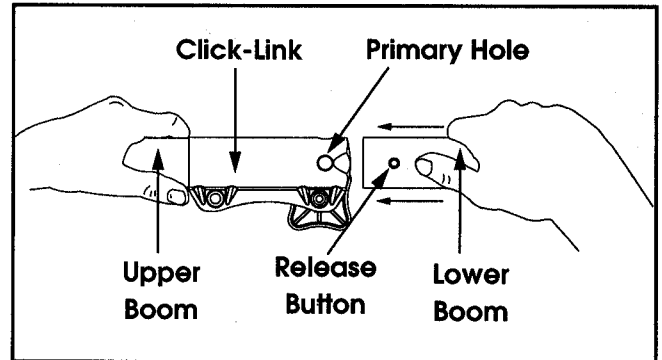

Fig. 2
3. Pull the lower boom straight out of the Click-Link (Fig. 2).
1. Remove the hanger from the lower (attachment) boom. Hold the release button down while pushing the lower (attachment) boom into the Click-Link (Fig. 2).